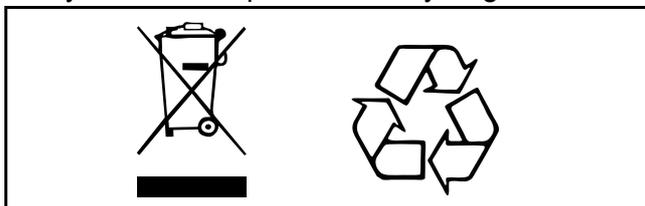

Fig. 2
- For recycling and disposal of the batteries, the rules according to the WEEE directive (Waste of Electronic and Electrical Equipment) as well as local laws and regulations must be followed. If not they may explode, leak and cause personal injury. When returning batteries, insulate their terminals with adhesive tape. Otherwise, the residual electricity in used batteries may cause fire or explosion. When disposing of any items associated with the equipment, contact the appropriate local authorities for information. Fig. 2 shows the symbols for disposal and recycling.